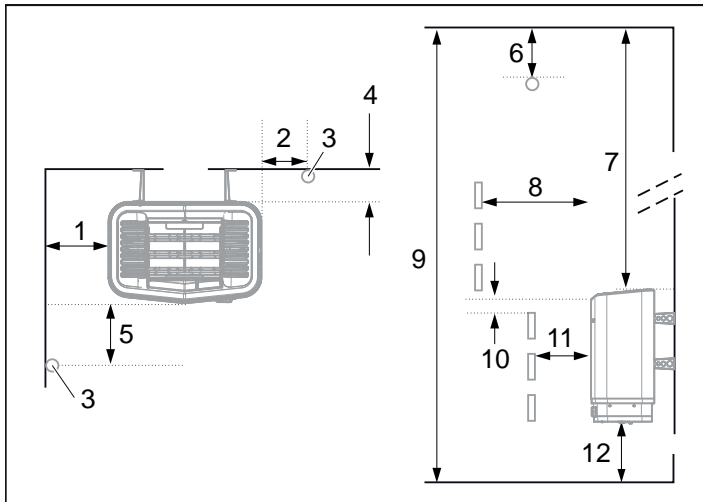
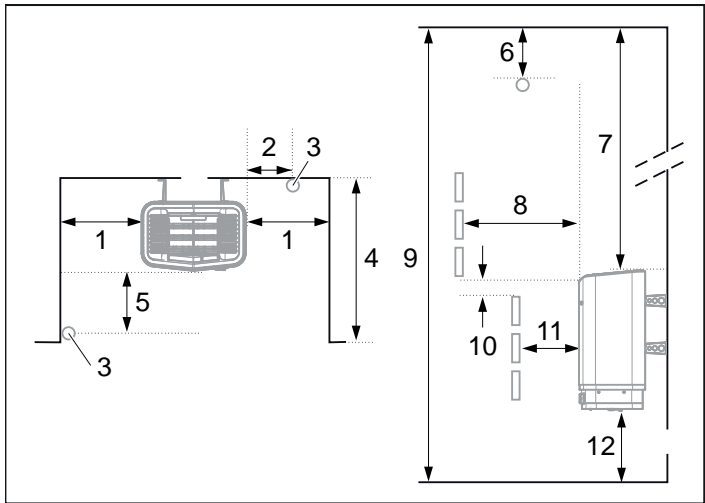

Figure 3: Positioning the heater - normal installation
Figure 5: Positioning the heater - recess installation
- Plan the sensor positioning (see Figure 3, page 11 and Figure 5, page 11).
- on the same wall as the door (or the side wall if very close to the door wall). The heater may also be placed in a recess (see Figure 5).
- Position the heater at a safe distance from the floor, side walls and interior fittings (see Figure 3).
Position the sensor according to the picture (see Figure 3).
- 1. Position the heater at a safe distance from the floor, side walls and interior fittings (see Figure 5).
- 2. Position the sensor according to the picture (see Figure 5).